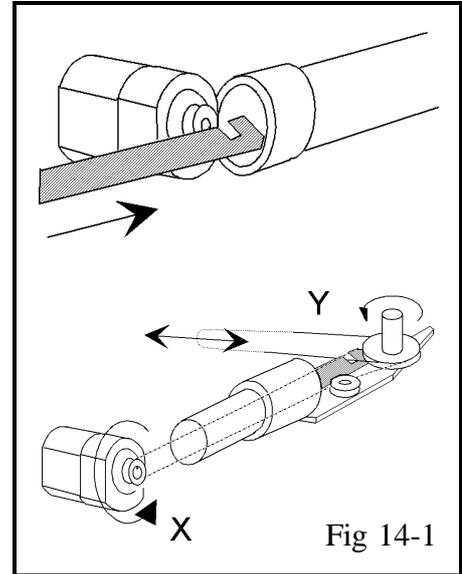

Fig 14-1
6. Re-assemble the Hoverfly, and test the tail before flying. Especially, ensure that the direction is correct. (See Fig 14-1)
2. Pass the special Belt Insertion Tool into the motor end of the boom, in front of the motor pulley, hooked-end first and uppermost (Fig 14-1). When it comes out of the other end, position the hook next to the near edge of the large pulley, as illustrated.